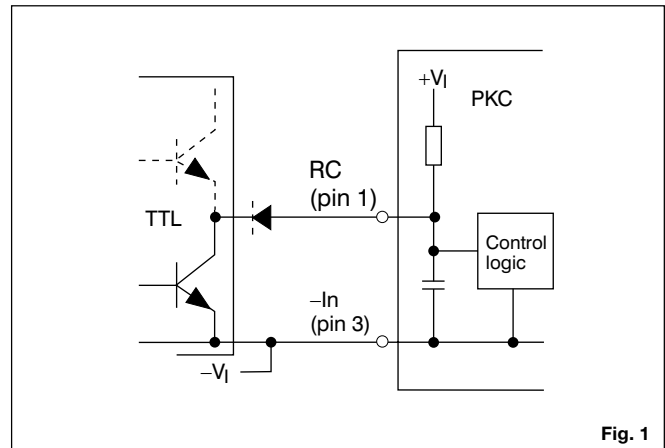

Fig. 1
Turn-on or turn-off can be realized by using the RC-pin. Normal operation is achieved if pin 1 is open (NC). If pin 1 is connected to pin 3 the PKC DC/DC power module turns off. To ensure safe turn-off the voltage difference between pin 1 and 3 shall be less than 1.8 V. RC is TTL open collector compatible (see fig. 1). Pin 1 is an output and no current should be driven into pin 1. Use a diode if necessary e.g. totem pole TTL logic. The internal pull-up resistance is $36 \text{ k}\Omega$.